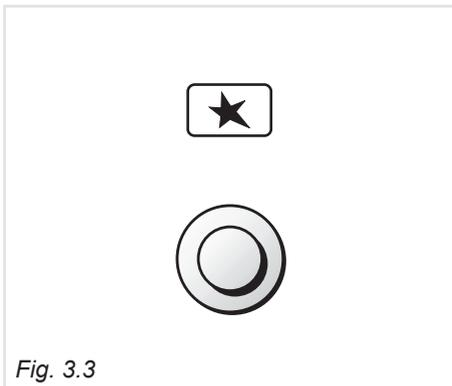

Fig. 3.3
2. Press the ignition button marked by the symbol  (fig. 3.3). The sparks produced by the electrodes situated next to the burner will light the selected burner. In the case of a mains failure light the burner with a match or lighted taper.